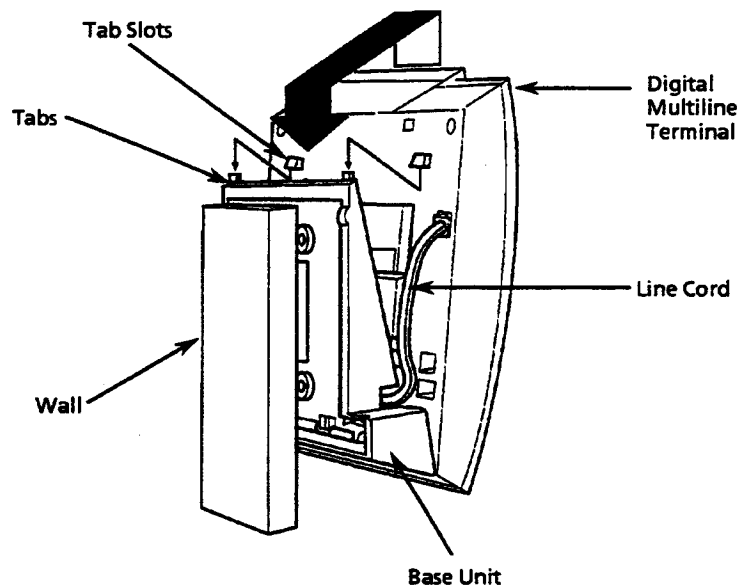

Figure 1-67 Attach Top Tabs of the Digital Multiline Terminal to the Base Unit
6. Push up on the terminal and lock the top tabs on the base unit in the tab slots on the Digital Multiline Terminal. Refer to Figure 1-67 Attach Top Tabs of the Digital Multiline Terminal to the Base Unit.